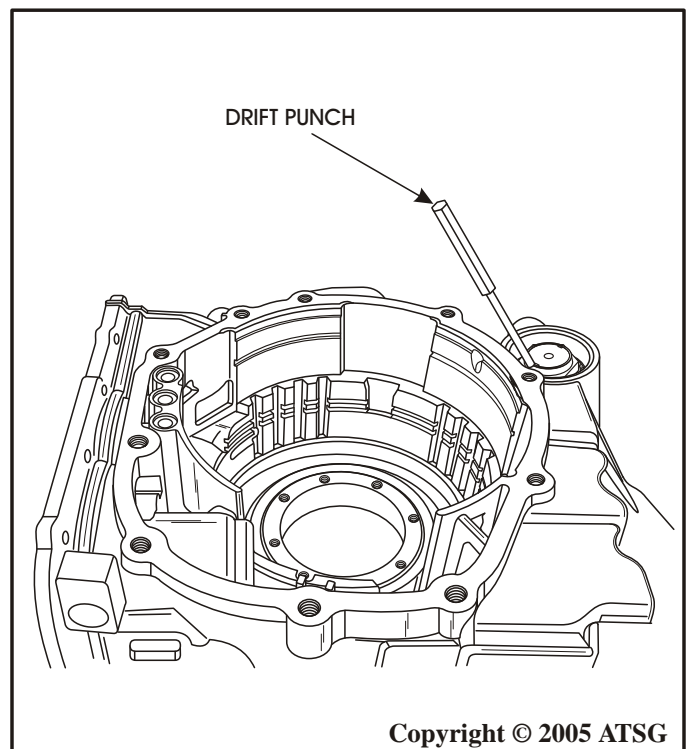

Figure 157
- After the turning torque is correct, stake the pinion retaining nut in two places, as shown in Figure 157.